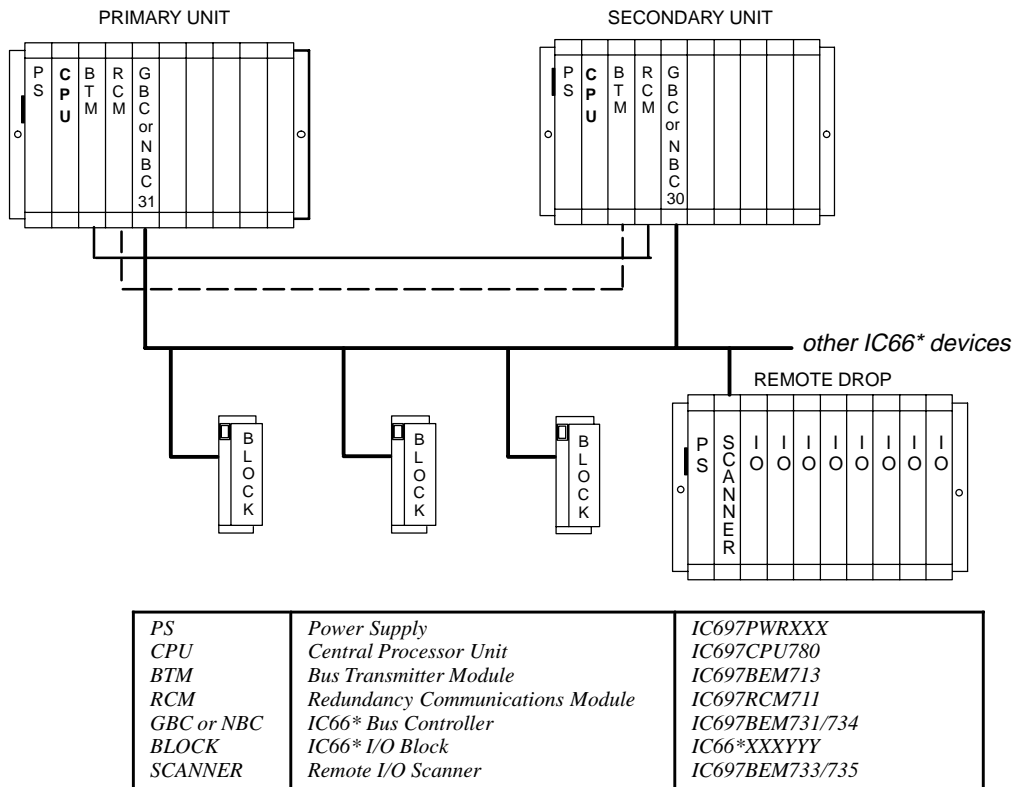

Figure 1. Hot Standby CPU Redundancy System Configuration
The CPU 780 is used as the CPU in a Hot Standby CPU Redundancy system. Two CPUs are required in a Hot Standby CPU redundancy system; one in the Primary PLC and one in the Secondary PLC. Each of the CPUs must be configured separately, with one configured as the *Primary* unit and one configured as the *Secondary* unit. The location of the CPU 780 modules in a typical Hot Standby CPU Redundancy system is shown in Figure 1.
- Install in slot 1 of rack 0. (See Figure 1)
The programmer connects to the top port on the Bus Transmitter Module (IC697BEM713) system interface module for a parallel interface (as shown in Figure 1). Consult Reference 2 for a description of programming functions.